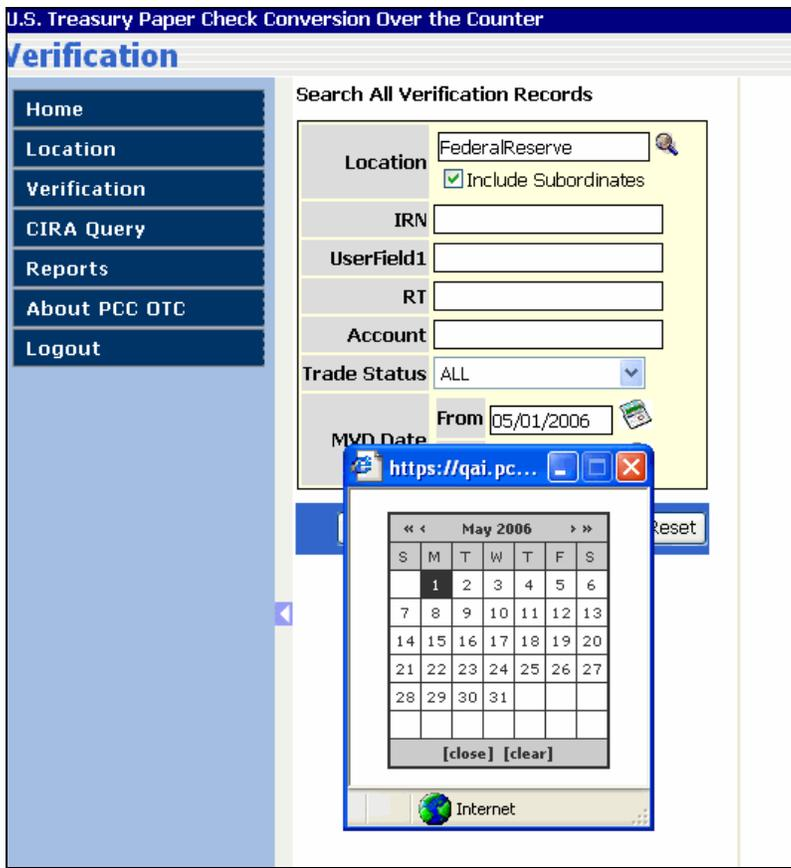

Figure 5.27.2
3. Choose a '**From**' and '**To**' MVD Date. Note that the date fields use a calendar tool to assist you (as pictured below in Figure 5.27.2) Clicking on the single arrow to the right or left of the month name will increase or decrease the calendar one month at a time. Clicking on the double arrows to the right or left of the month name will increase or decrease the calendar one year at a time.